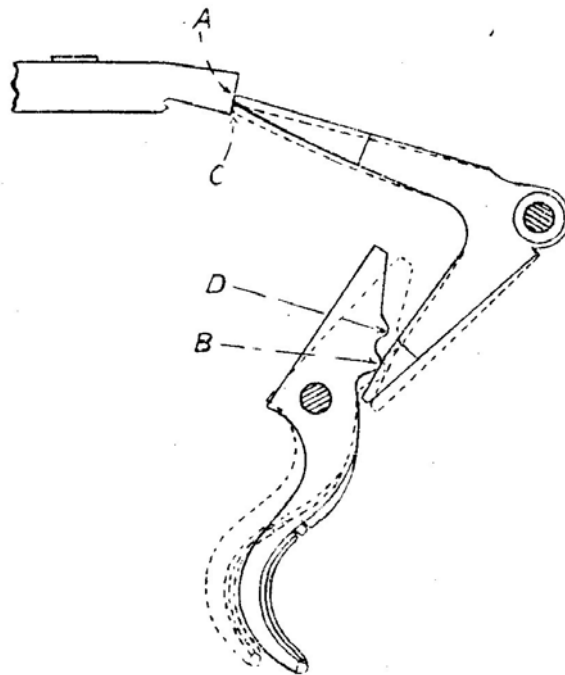

Fig. 1.
6. *To increase or decrease the weight of the pull-off and to produce and regulate the double pull.* - To reduce the weight, increase, with an oilstone, the angle made with the vertical by the face of the bent "A" (Fig. 1). To increase the weight reduce the angle. When fitting a new sear, trigger, or trigger guard, the double pull will be regulated, as necessary, in the following manner.
Remove the fore-end from the rifle, insert the new sear in the body, the new trigger in the guard or the old trigger in the new guard, withdraw the front guard screw collar from the fore-end, assemble the guard with the collar in position under the guard and fully cock the bent "A" (Fig. 1) shows the correct position of the sear nose on the end of the cocking-piece at full cock. Upon pulling the trigger, the rib on the trigger at "B" coming in contact with the sear, draws the sear down to the position shown at "C"; the rib on the trigger at "D" then comes in contact with the sear and draws the sear off the cocking-piece. If the sear is drawn off the cocking-piece by the first action of the trigger, and there is no second pull, the height of the rib "B." should be reduced with oilstone or emery cloth until the sear assumes the correct position, as shown at "C," care being taken to maintain the shape.